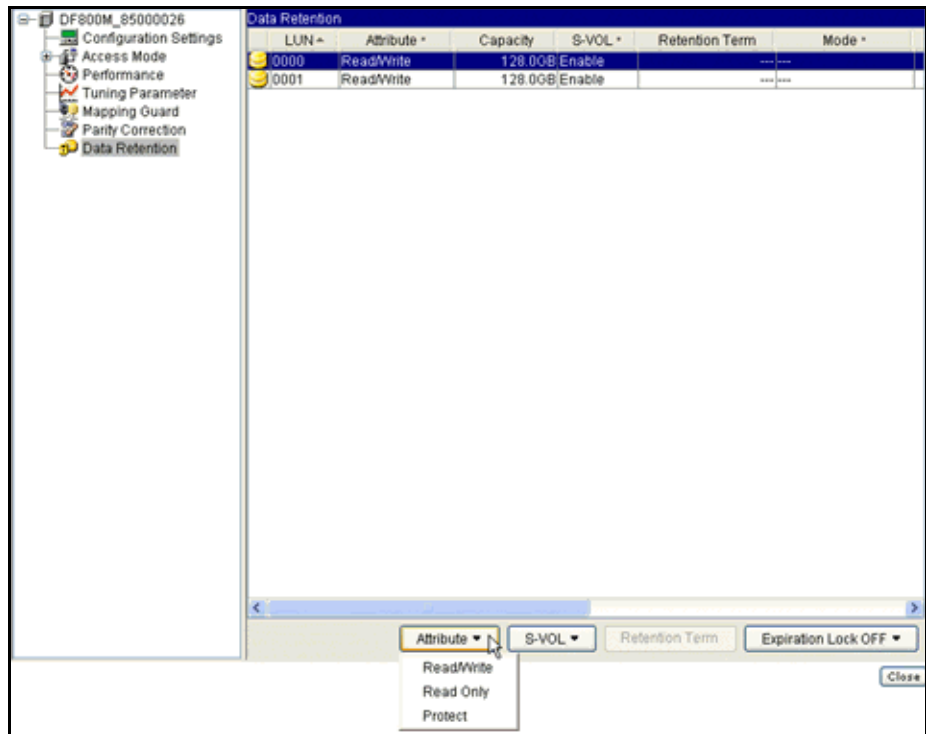

Figure 7-1: Data Retention Window
5. Click **Data Retention**. Figure 7-1 appears.